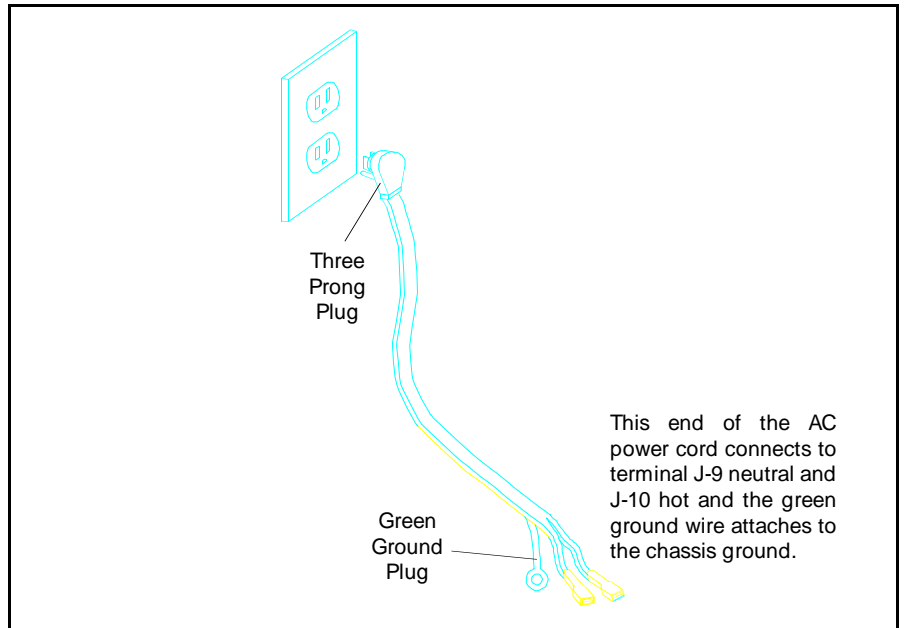

Figure 4.4 AC Supply Cord
1. This refrigerator is equipped with a three prong plug for protection against shock hazard and must be connected into a recognized three prong receptacle as shown in Figure 4.4.